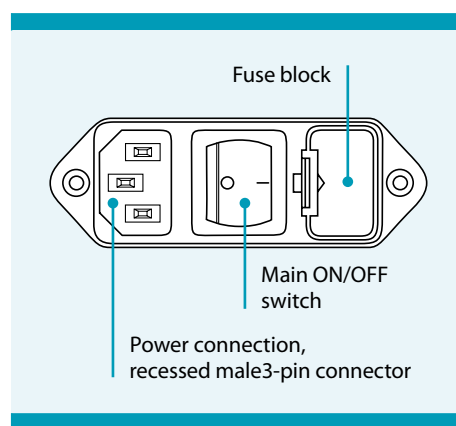
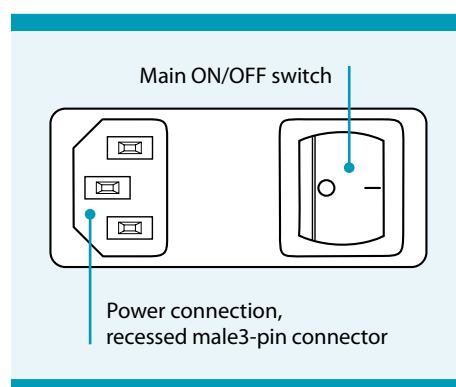

Figure 4.1: Power connection model CS2-CE/UL
Figure 4.2: Power connection model CS3
The power connection module is located at the rear of the instrument. Viewed from behind, the connection consists of three sections (see Figure 4.1). The left section is the recessed male 3-pin connector to which the power cord is attached. The center section is the main ON/OFF switch. When positioned to the left, the switch is 'OFF' (O). When positioned to the right, the switch is 'ON' (I).
The power connection module is located at the rear of the instrument. Viewed from behind, the connection consists of two sections (see Figure 4.2). The left section is the recessed male 3-pin connector to which the power cord is attached. The right section is the main ON/OFF switch. When positioned to the left, the switch is 'OFF' (O). When positioned to the right, the switch is 'ON' (I).
Switch on the instrument by using the main ON/OFF switch (see Figure 4.1 and Figure 4.2 on page 25) located on the right-hand back panel of the instrument.